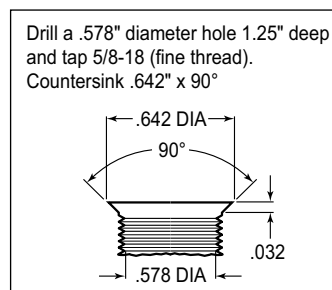
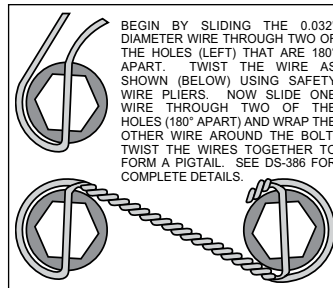

Figure 3. Drill and Tap Detail
Figure 4. Safety Wire Diagram
•**NOTE:** Some spindles in this year range may require the following modifications (reference Figure 1 and Figure 3): Top anchor pin hole (Z) must be drilled and tapped to the dimensions as outlined in Figure 3. The lower bolt hole (Y) in the spindle used to mount the new caliper bracket, and the mating steering arm hole, must be enlarged to .50" by drilling. It is recommended these modifications be performed by a qualified machinist.
•Install wheel studs (12) into the hub (13), Photo 1. Torque to 77 ft-lb. **NOTE:** There are two five lug patterns in the hub (5 x 4.50 and 5 x 4.75). Make sure of the correct hole pattern for the correct wheel application before installing studs into hub.
•Pack the large inner bearing cone (14) with high temperature disc brake bearing grease (available from your local auto parts store) and install into the backside of the hub (13).
•Install the grease seal (15) by pressing into the backside of the hub (13), Photo 2.
•Orient the rotor (16) and the hat (17) as shown in Figure 1 and Photo 3. Attach rotor to hat using bolts (18) and washers (19). Apply red *Loctite*® 271 to the bolt threads and torque to 155 **in-lb** using a criss-cross pattern. For an added measure of security, the bolts may be safety wired using standard 0.032 inch diameter stainless steel safety wire as shown in Figure 4. Please refer to Wilwood's data sheet DS-386 (available at www.wilwood.com/Pdf/DataSheets/ds386.pdf) for complete safety wire installation instructions.